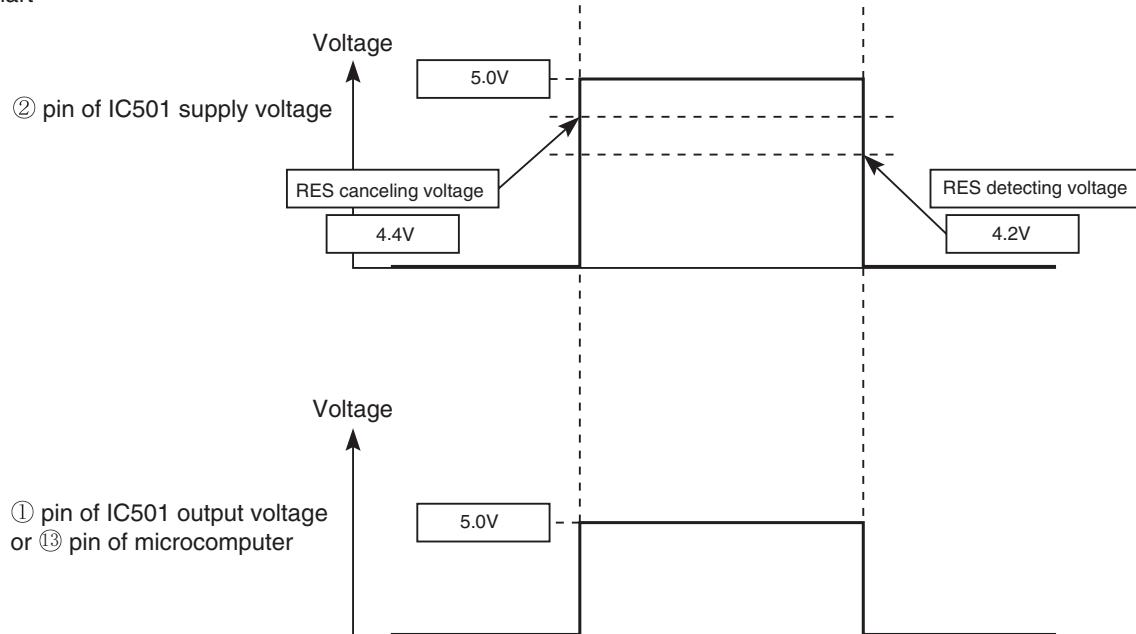

Fig.2-2
- Microcomputer operates when ⑬ pin of the indoor unit microcomputer (reset input) is "Lo" for resetting and "Hi" for heating.
- Waveform of each part when switching ON the power and when shutting down is shown in the Fig. 2-2.
- After switching ON the power, ① pin of IC501 supply voltage and ⑬ pin of microcomputer becomes Hi when DC5V line rises and reaches approximately 4.4V or higher.